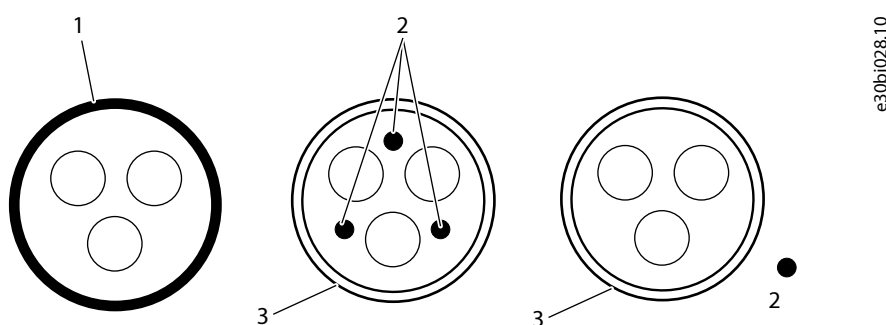
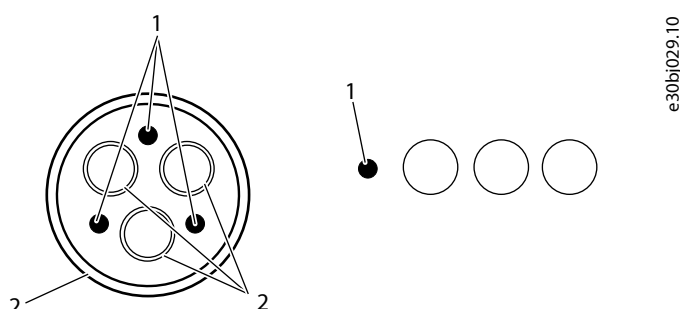

Figure 27: Recommended Cable Types for Mains and Motor Cabling
Figure 28: Not Recommended Motor Cable Types
**Only use symmetrical and shielded 3-phase motor cables.** See Figure 27. Do not use symmetrical and shielded 3-phase cable with individual shield for each phase conductor or single-core phase conductors and PE with or without shield, see Figure 28.